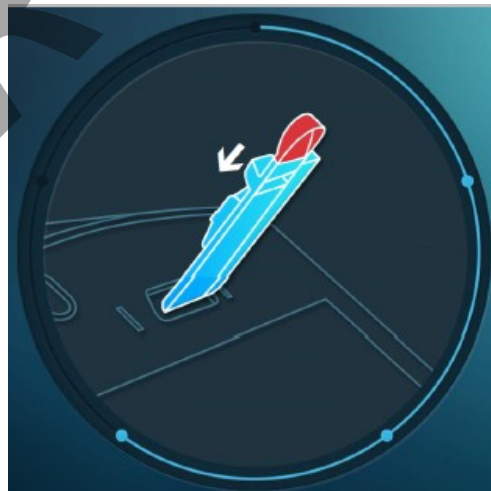

Figure 32. Inserting the utility cartridge screen
17. When the insert utility cartridge screen is displayed, insert the utility cartridge into the instrument (see Figure 32). The utility cartridge has a red label and is provided with the new primary cartridge. **The utility cartridge is a blank cartridge that allows for fluids to run through it. A countdown timer is displayed. This run will be approximately 5 minutes.**